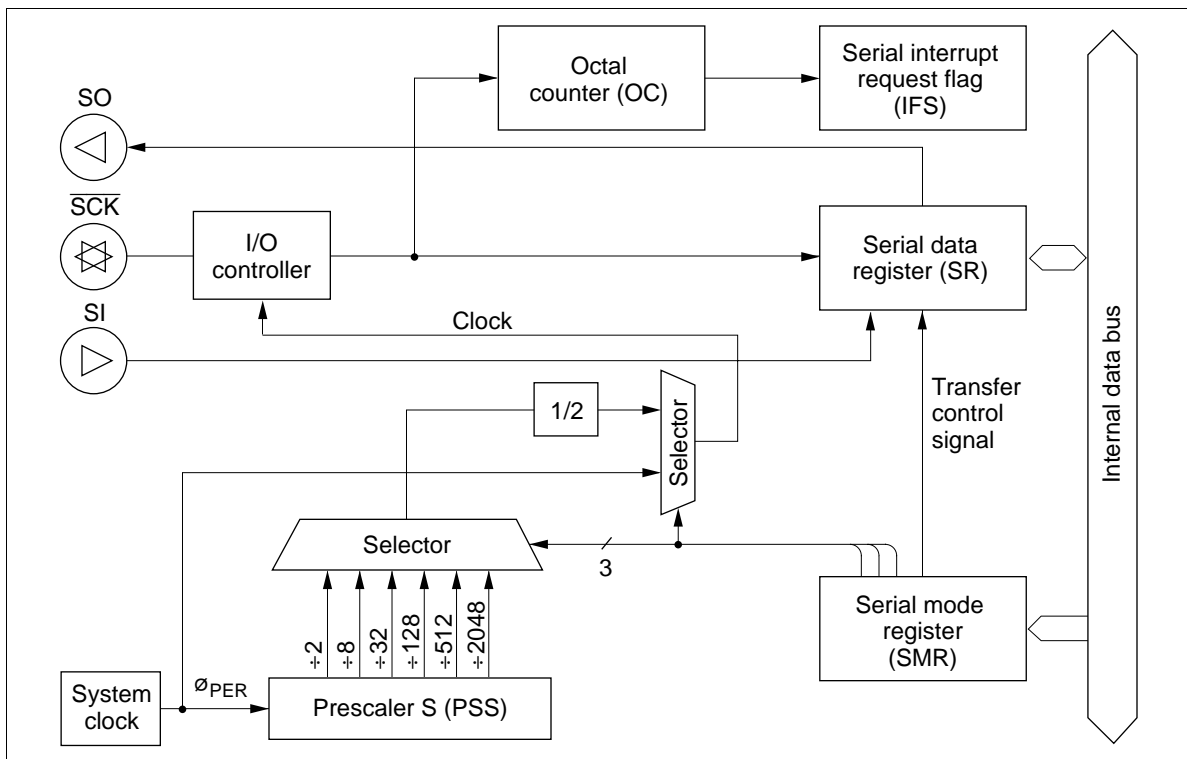

Figure 29 Serial Interface Block Diagram
The serial interface consists of a serial data register (SR), serial mode register (SMR), port mode register A (PMRA), octal counter, and selector, as shown in figure 29. The $R1_0/\overline{SCK}$ pin and the transmit clock are controlled by writing data to the SMR. The transmit clock shifts the contents of the SR, which can be read and written to by software, before transmission starts between two MCUs.